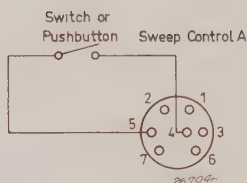

Fig. 6.2. Connection of an external push-button for reversing remotely the direction of the frequency scan.
3. Connect a pushbutton to the SWEEP CONTROL A socket as illustrated in Fig. 6.2.